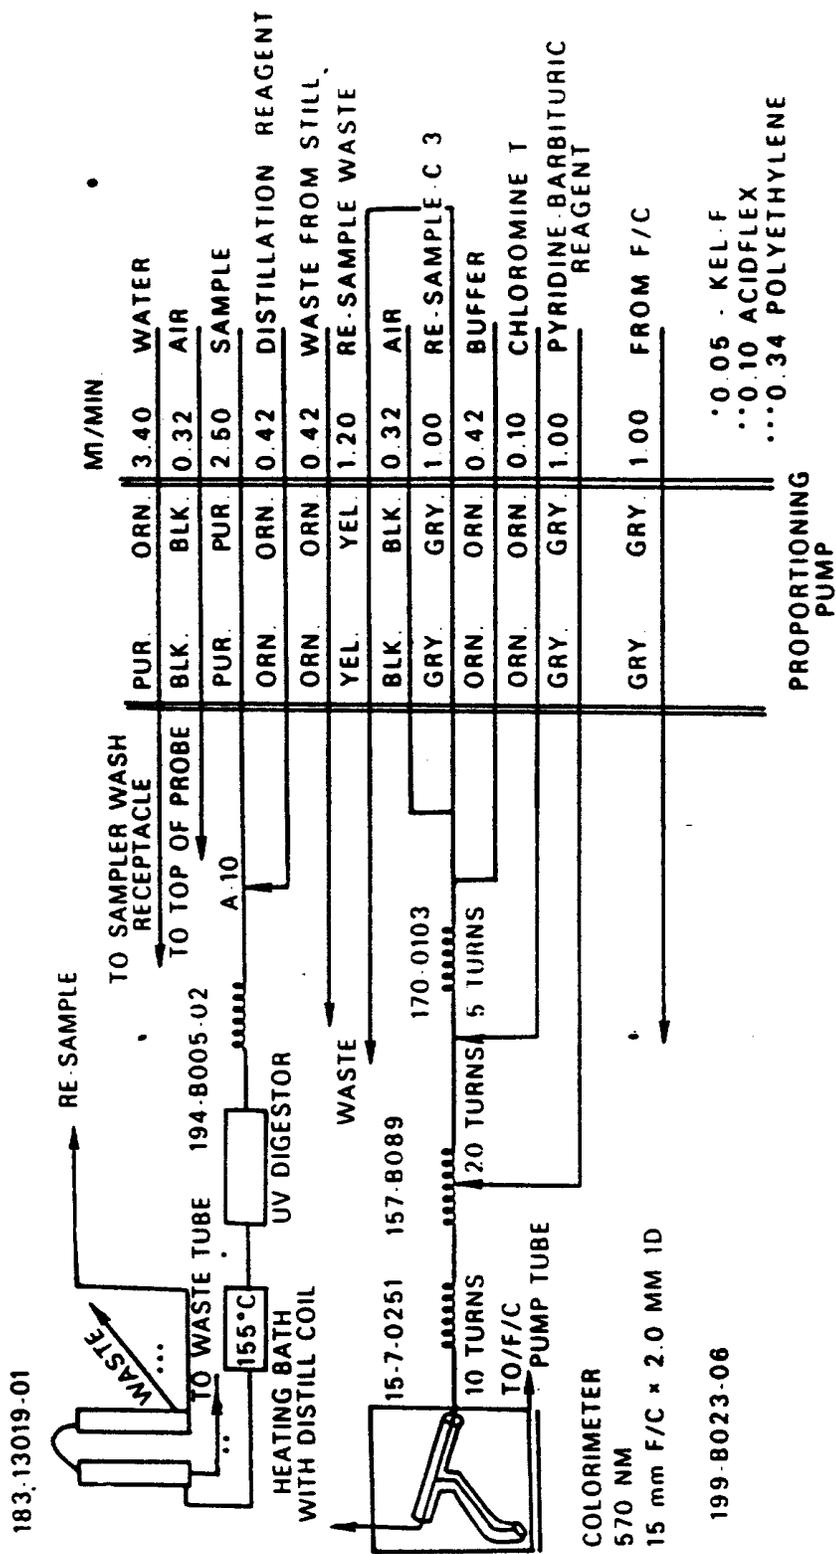

FIGURE 1. CYANIDE MANIFOLD AA11
- 7.1 Set up the manifold as shown in Figure 1 in a hood or a well-ventilated area